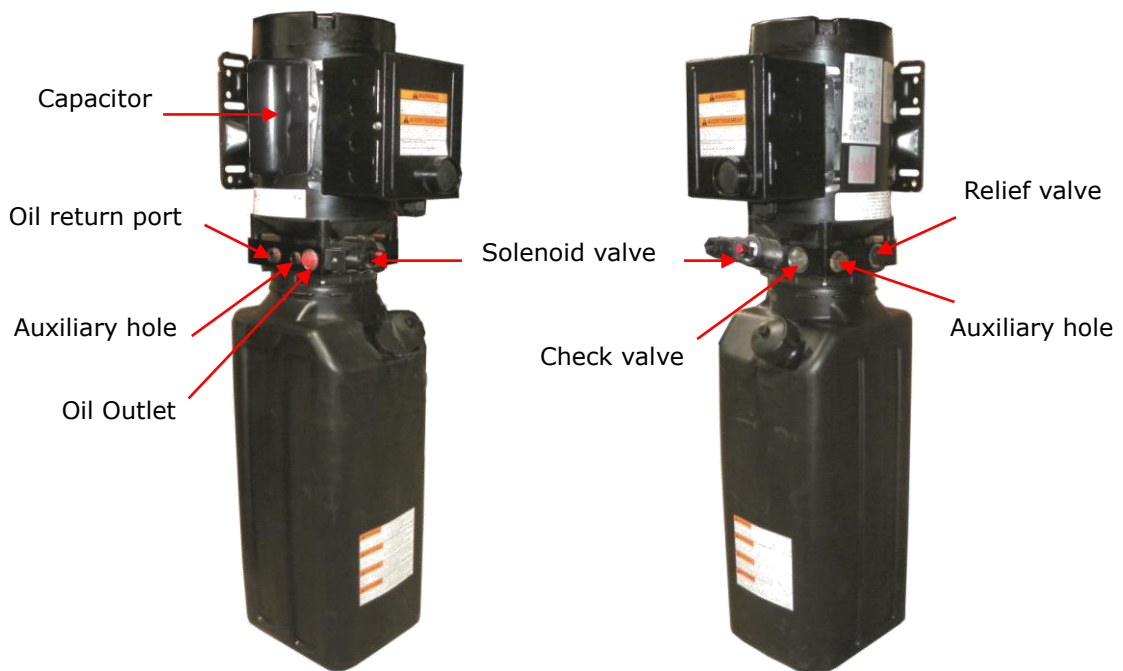

Fig. 52
a. SPX Electric power unit, 220V/50HZ, Single phase (See Fig. 52)